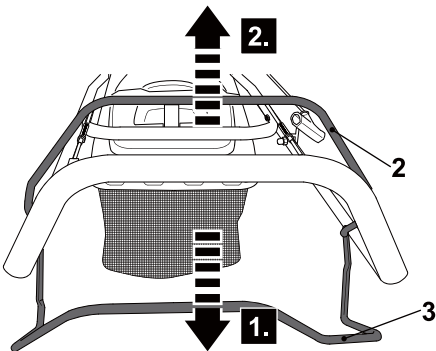

Fig. 21
1. Release the drive bar (3) to stop the self-propelled function (Fig. 21, step 1).
2. Release the brake bar (2) to stop the engine and blade (Fig. 21, step 2).